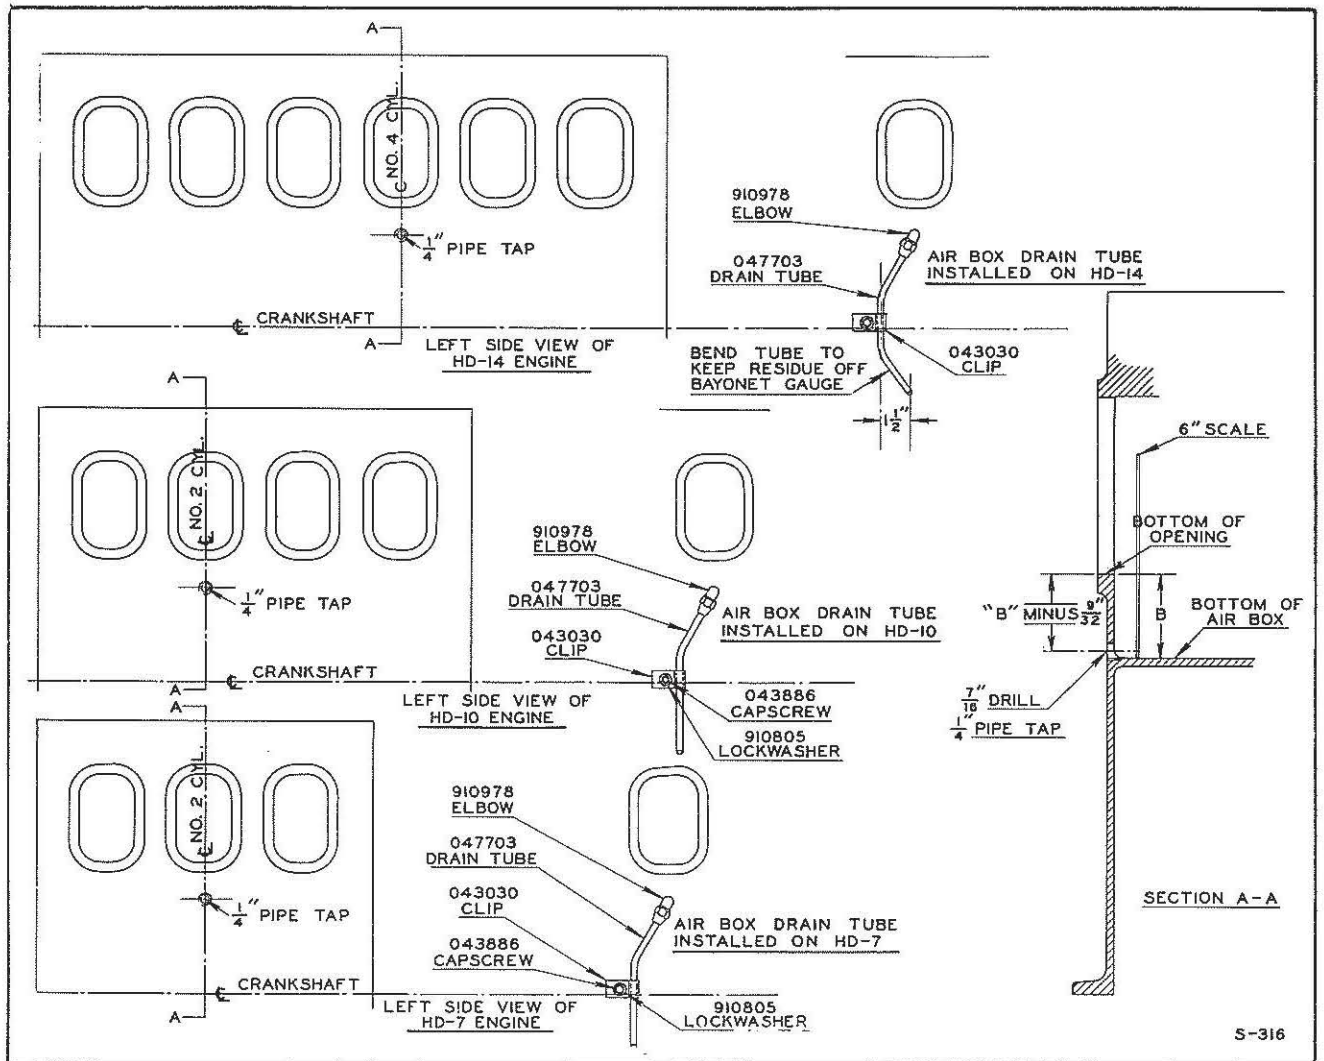

FIG. 3
2. The improved air box drain tube may be installed on engines in the field by drilling and tapping air box as shown in Fig. 3.